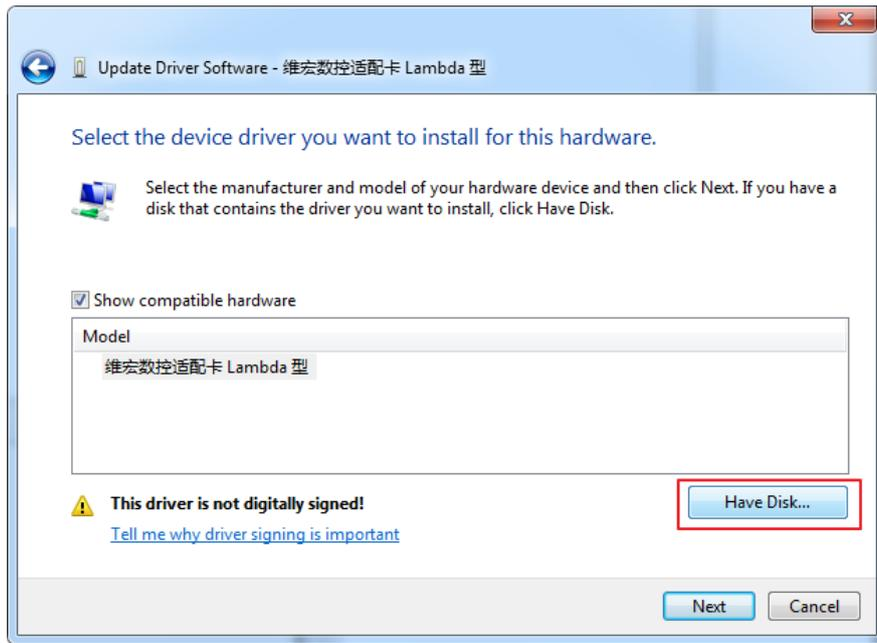
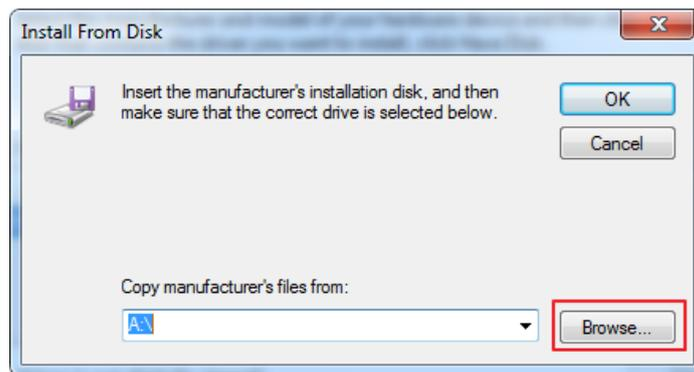

Fig. 1-5 Select the Driver Manually
Fig. 1-6 Select the Target File of Driver
- 4) Click **Have Disk...** button, as shown in Fig. 1-5. And click **Browse...** button in the next dialog box, shown as Fig. 1-6.